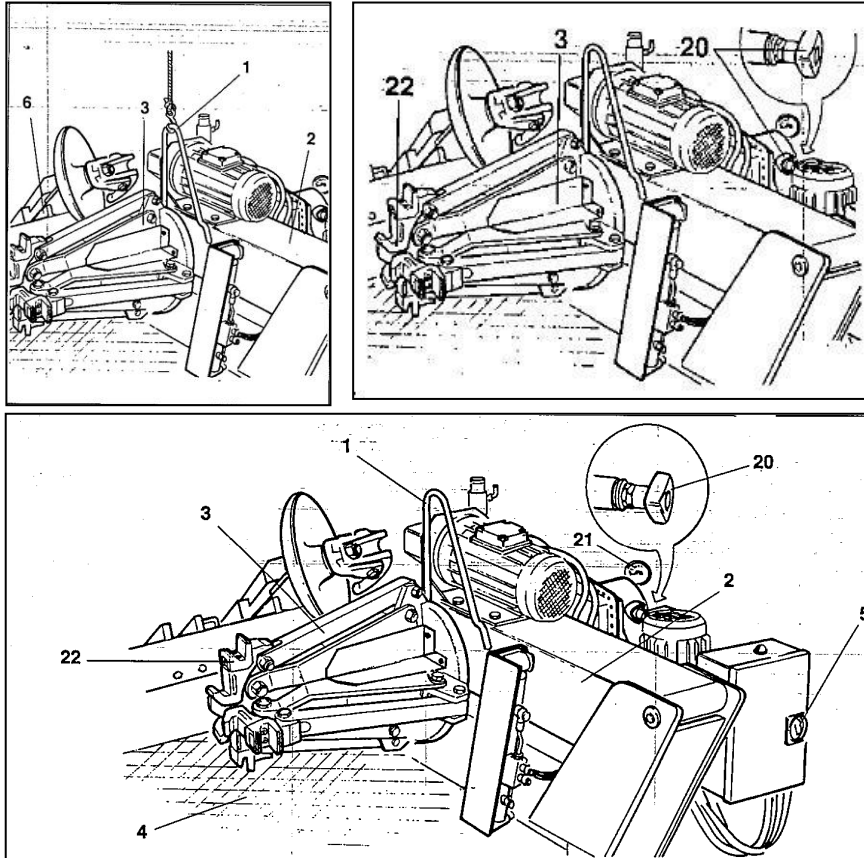

Fig. 3.1
The Worker product has got a fork (1, Fig. 3.1) which has been positioned there on purpose for moving the machine. Follow, these instructions:
- 1) Low the turntable holding arm (2, Fig. 3.1) completely down..
- 2) Close completely the jaws of the chuck (3, Fig.3.1).
- 3) Bring the bead loosener disk up against the lifting bracket (1, Fig.3.1), 20cm nearly with the arm (14 Fig.6.3) closed on work position.